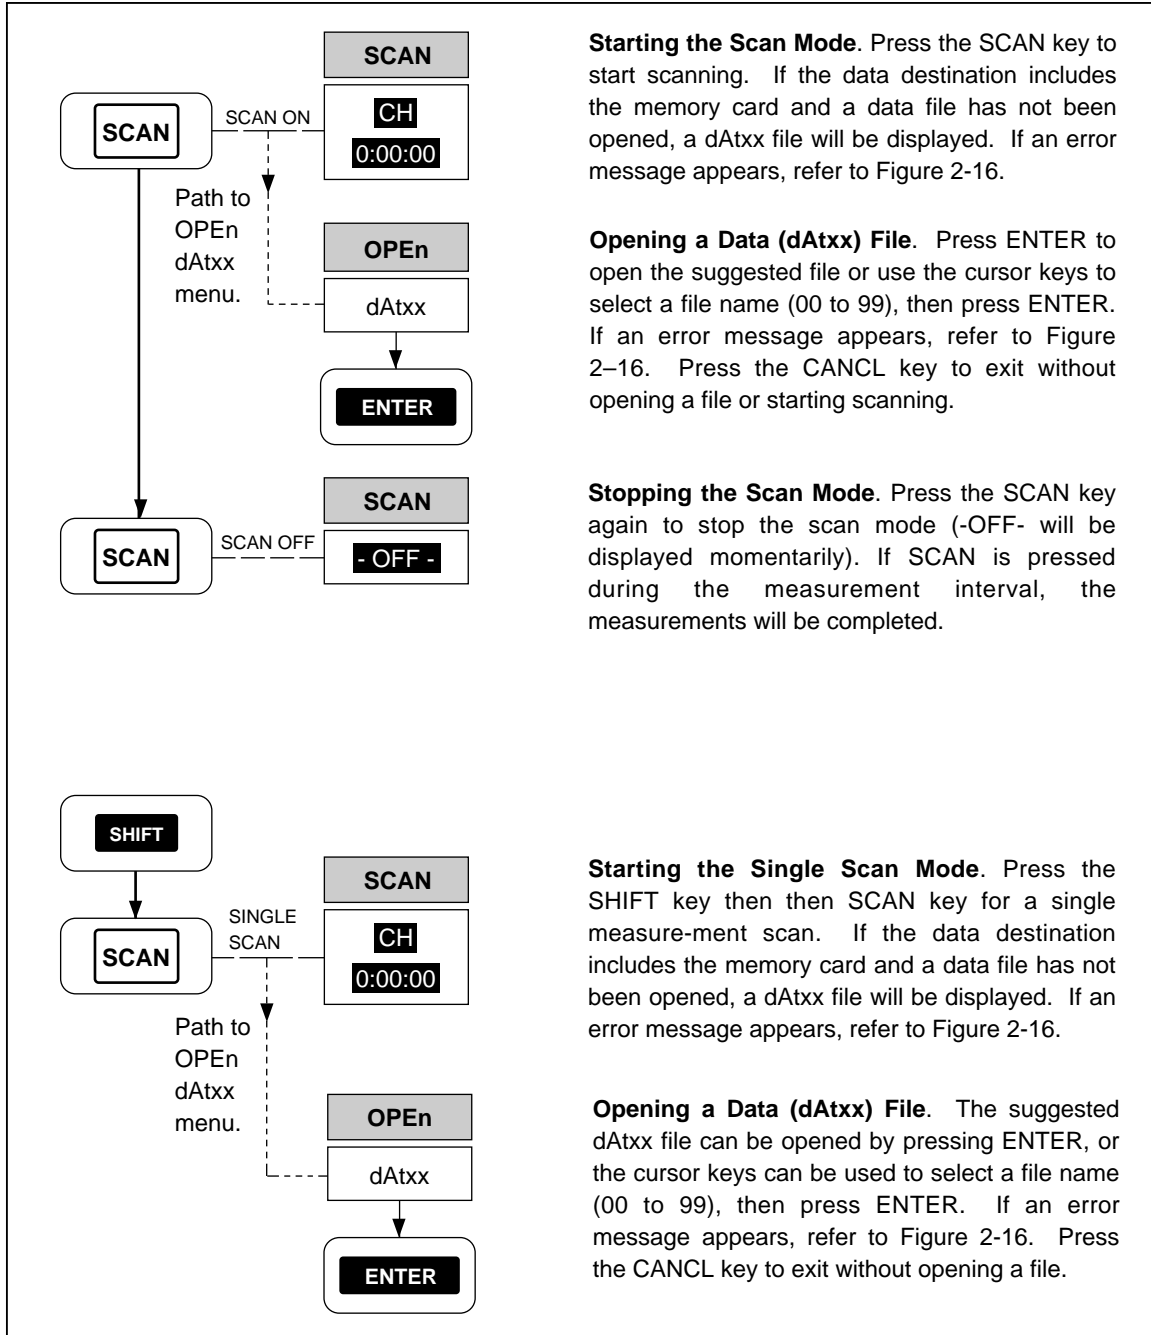
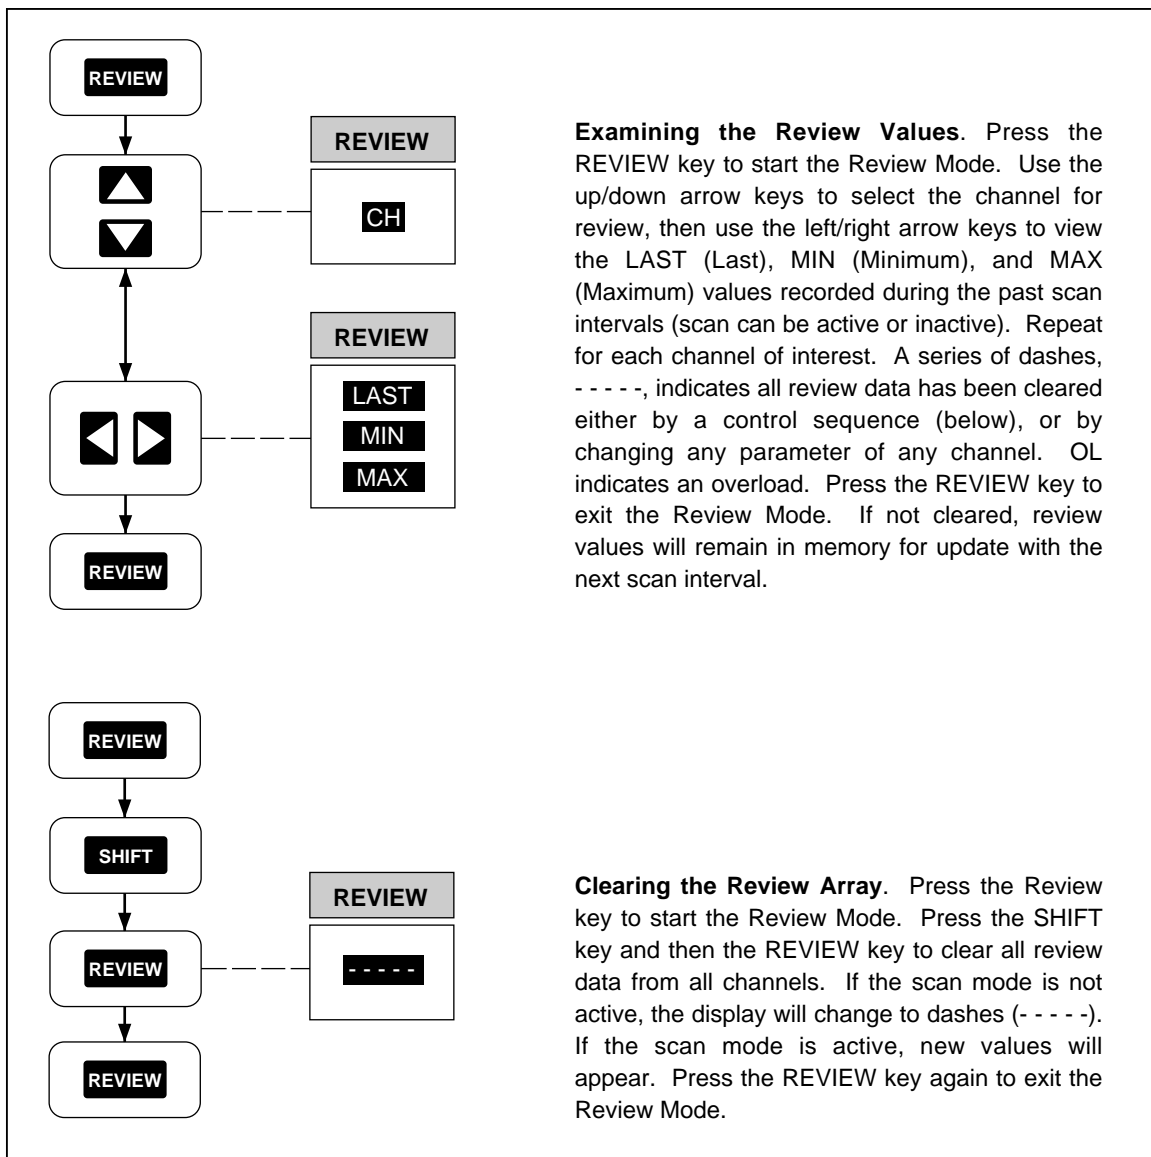

Figure 2-15. Using the Scan Mode
Figure 2-18. Using the Review Mode
If a scanned channel is in an alarm condition during the scan, the ALARM annunciator is turned on (dim display). If all alarm conditions clear during the next scan, the ALARM annunciator is turned off. See Figure 2-15 for information about the Scan Mode.
If the channel being reviewed had been in an alarm condition, the ALARM and alarm limit 1 and/or 2 annunciators will be turned on. The alarm limit annunciator indicates which alarm has been exceeded. See Figure 2-18 for information about the Review Mode.
- Using the Scan Mode (Figure 2-15)
- Using the Review Mode (Figure 2-18)
Perform the procedure in Figure 2-15 to start and stop the Scan Mode of operation. The Scan Mode can be started when the instrument is inactive, in Monitor (Figure 2-17), or Review (Figure 2-18). Measurement results can be sent to a memory card (see Chapter 3, "Memory Card Operations") and PC (see Chapter 4, "Computer Operations") or printer (see Chapter 5, "Printer Operations"). When using the Scan Mode with a memory card, consider each of the following topics. (Memory card error messages are summarized in Figure 2-16.)
Perform the procedure in Figure 2-18 to operate the Review Mode of operation. The Review Mode is used any time during or after operation of the Scan Mode. While the instrument is in the Scan Mode, the last, maximum, and minimum measurements for each scanned channel are stored in memory and updated with each scan, forming the Review Array. For example, during scan operations, **REVIEW** can be used to monitor the maximum measurement of a channel in real time. The Review Array is cleared by a control sequence (see Figure 2-18 below), or by changing any parameter of any channel or the measurement rate. The Review Array can be printed out using the **LIST** key (see Figure 5-4). If the instrument is in the Review Mode and scanning using the memory card, any illegal memory card operations is noted only with a double "beep." If a double beep is heard, exit the Review Mode and check the memory card error (see Figure 2-16).
To verify the equipment setup when the memory card is used to record data, use the Single Scan mode (see Figure 2-15) to record a single scan. Any problems with the memory card or setup can be observed and corrected. If a triggering option triggers scanning without an open memory card dAtxx file, the instrument will automatically open a file when a usable memory card is in the instrument. If no memory card is installed or the memory card is not usable, the most recent 75 scans are saved in an internal memory. To record the saved scans, insert a usable memory card and open a file (see Figure 3-8). The stored scans will be transferred to the card.